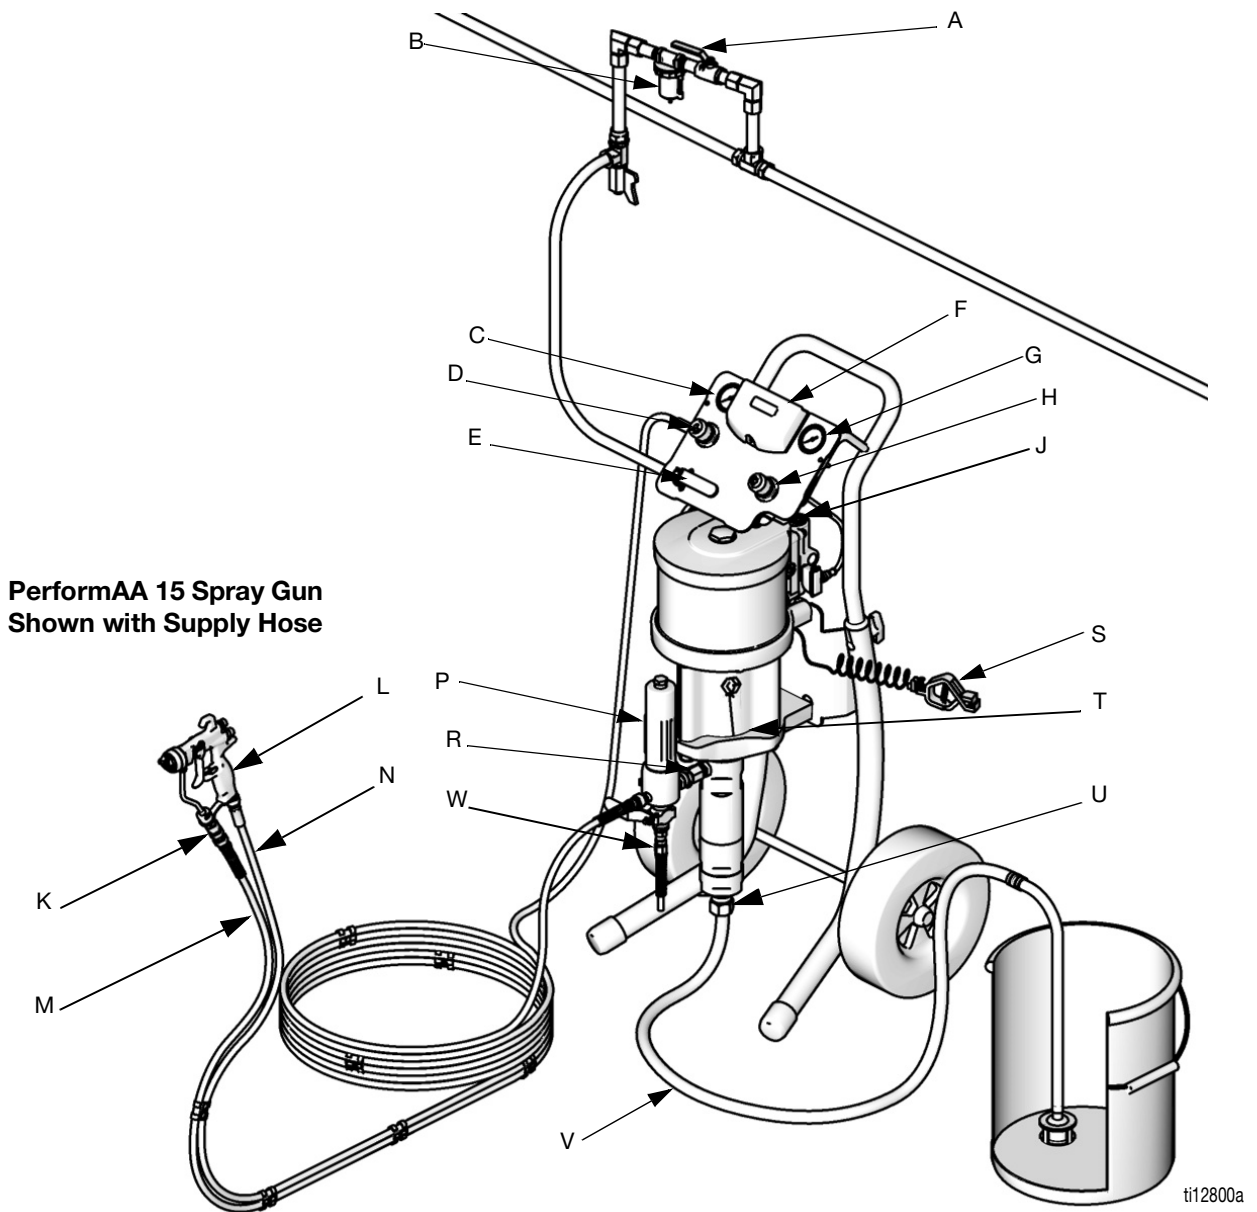

FIG. 1. Typical Installation (Your package may not include all items shown.)
FIG. 1 is only a guide for selecting and installing system components and accessories. Contact your Graco distributor for assistance in designing a system to suit your particular needs.
See FIG. 1. **Components vary by package ordered.** See tables on pages 7 to 16. Your package may include:
Install the following accessories in the order shown in FIG. 1, using adapters as necessary.
1. See FIG. 1. Attach end of blue fluid hose (M) to pump outlet (R) or filter (P) outlet.
2. Attach one end of the air hose (N) to gun air regulator (D).
3. Attach remaining end of the air hose (N) to air inlet at base of gun (L).
4. Attach gun swivel (K) to gun fluid inlet.
5. Attach other end of blue fluid hose (M) to gun swivel (K).
2. See FIG. 1. Turn off the bleed-type master air valve (E).
1. See FIG. 1. Lock gun trigger. Remove tip guard and spray tip from gun (L). Refer to gun manual.
2. Close gun air regulator (D) and pump air regulator (H) by turning knobs counterclockwise reducing pressure to zero. Close bleed-type air valve (E). Also verify that all drain valves are closed.
3. Connect air line to bleed type air valve (D).
6. Hold metal part of gun (L) firmly to side of grounded metal pail, unlock trigger, and hold trigger open.
8. Open bleed-type air valve (E). Slowly turn clockwise pump air regulator (H) increasing pressure until pump starts.